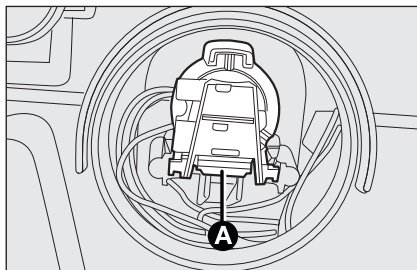

fig. 24
- press the fastener **A**-fig. 24 and extract the bulb holder;